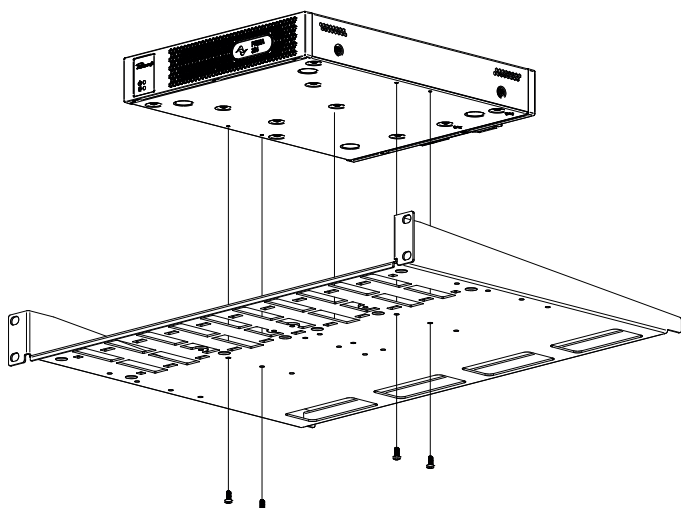

Figure 3 - Single unit mounting option
4. Position each PRIMA amplifier on the tray so that the threaded inserts on the bottom side of the chassis are aligned with the through-holes of the tray, as illustrated in Figure 3 and 4.